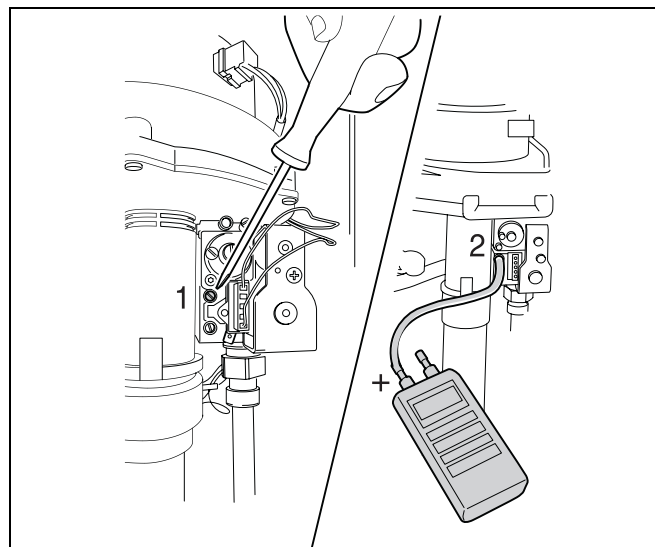

fig. 52 Check the gas/air ratio
- Open the top measuring nipple (see fig. 52, item 1) with two turns.
- Connect a tube from the "+" side of the pressure gauge to burner-pressure testing nipple (see fig. 52, item 2)
- Tighten the screw on the burner-pressure testing nipple (fig. 52, item 1).